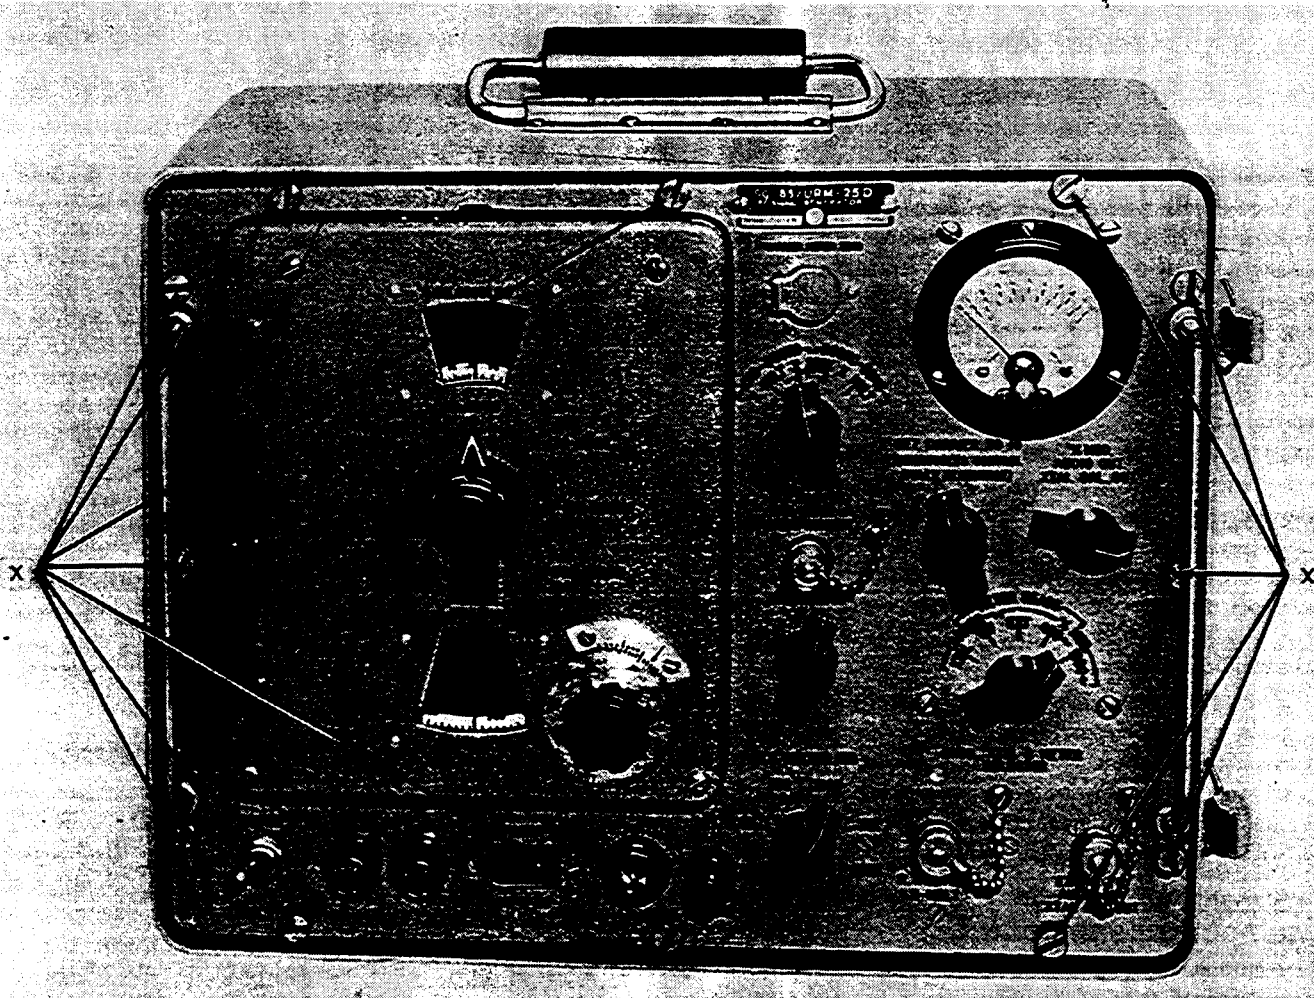

Figure 6-2. Front Panel View for Removal of RF Signal Generator SG-85/URM-25D from Cabinet
- (1) Remove the power cable (W101).
- (2) Loosen the twelve captive screws (x) located around the outer edge of the panel (figure 6-2).
- (3) Gently pull the generator chassis about eight inches from the cabinet, using the lifting handles provided on the front panel. The generator unit cannot be completely removed since the interconnecting power cable (W102) and output power cable (W103) are still connected to the power supply sub-chassis.
- (4) Remove the output power supply connector (P102) and the AC input connector (P101) from the power supply sub-chassis. The generator sub-assembly can now be removed. The power supply sub-chassis will remain in the cabinet.